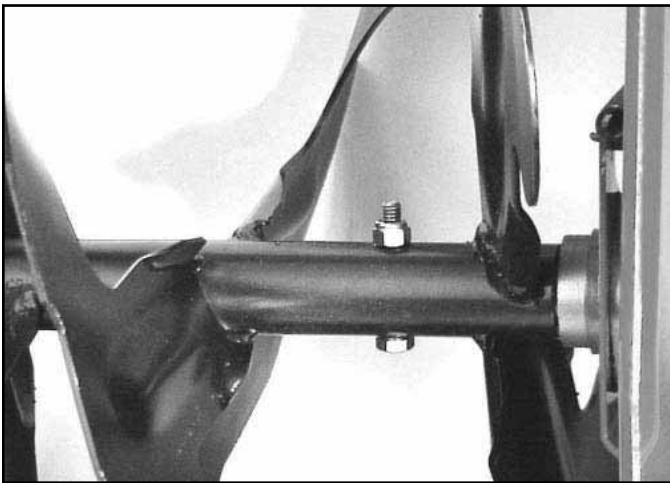

Fig 088
1. All models use a cap screw and locknut to secure the augers to the auger shaft. Remove the cap screw and slide the auger off of the shaft (Fig. 088).